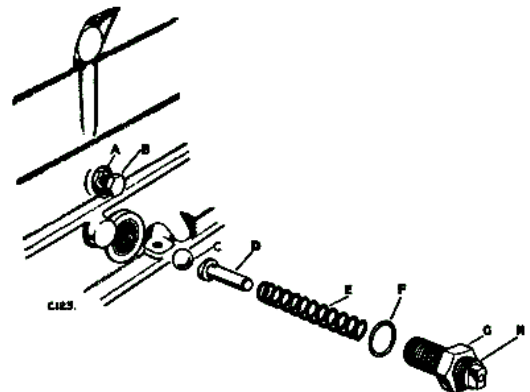

Fig. A-29—Oil pressure relief valve
3. Pull down the cylinder head bolts evenly to the correct tension in the order shown in Fig. A-29.